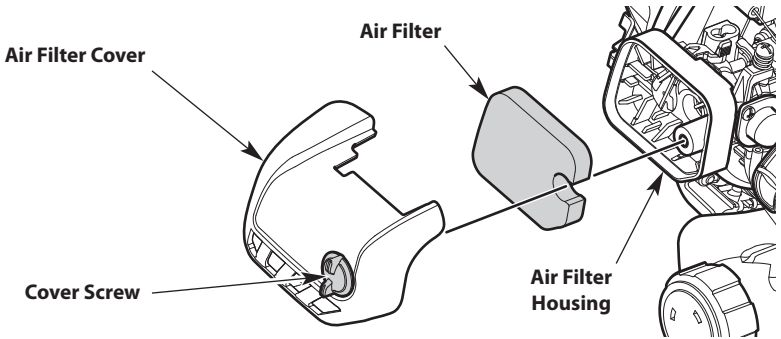

Fig. 27
1. Open the air filter cover by unscrewing the cover screw (Fig. 27).
2. Remove the air filter from the air filter housing (Fig. 27).
6. Reinstall the air filter in the air filter housing (Fig. 27).